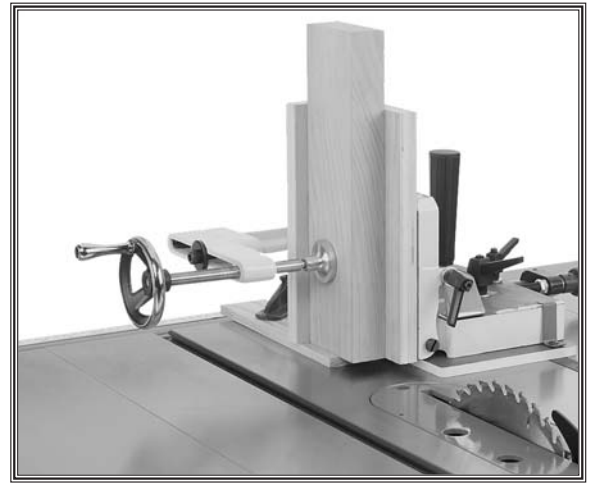

Figure 21. Example of a workpiece correctly mounted on the jig.
6. Place the workpiece firmly against the back and side backing boards, as shown in **Figure 21**, then use the clamp shoe to securely hold it in place.